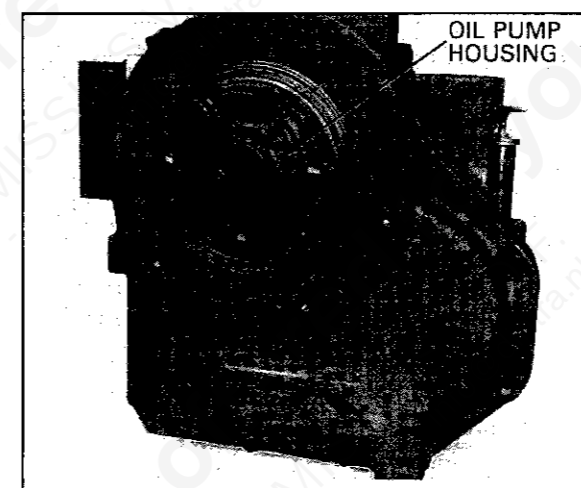

FIG. 52 PUMP HOUSING BOLT INSTALLATION
62. Assemble pump bolts and oil seal washer (Fig. 52) and tighten to 15-20 pounds-feet (20-27 N·m).